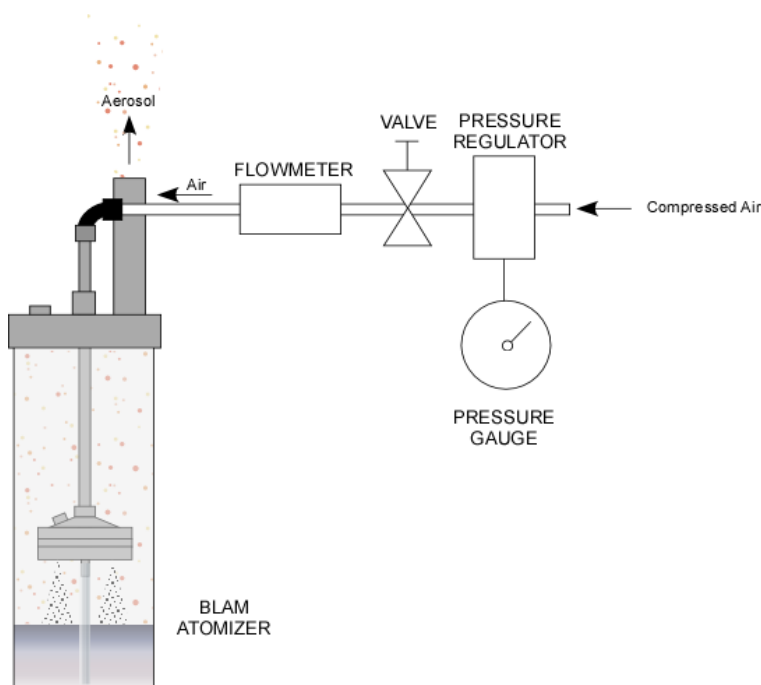

Figure 2. Schematic of BLAM's Setup in MPA Mode
When the air source is turned on, mist should appear at the aerosol outlet as shown in Figure 2. If mist does not appear, recheck all your fittings and make sure that jar is screwed in tight. The operation of the BLAM depends upon it being a completely sealed unit.
4. Using a 1/4" OD tube, connect a compressed air line to the air inlet of the BLAM. Use polyurethane tubing or one that can withstand the pressure used. BLAM's air inlet is equipped with a 1/4" push-to-connect fitting so the air line can be connected by simply pushing the tubing in. If your BLAM comes with non-standard fittings, use appropriate couplers to connect the air line to the atomizer. If you are not using any of CH Technologies system control units, make sure that the compressed air line is equipped with appropriate pressure and flow controllers. An illustration of a standard setup of the BLAM in MPA mode is given in Figure 2.